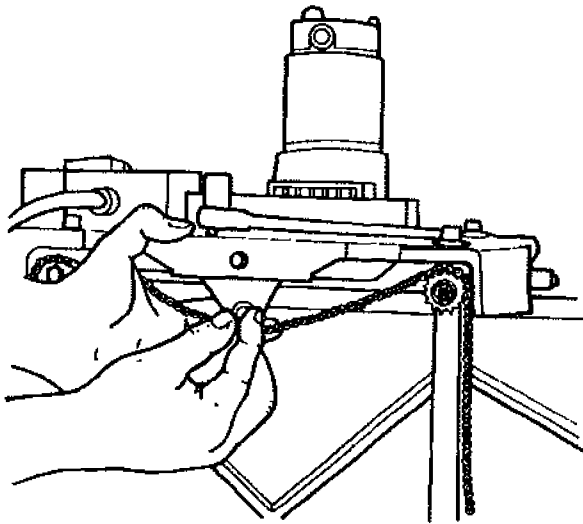

Fig. 77
9. Re-install and re-adjust the synchronizing chain. Tilt the planer on its right side so that the tension adjustment sprocket is at the top. Remove the adjustment sprocket. Place the chain on the bottom two sprockets and hold it so the chain doesn't drop. Carefully slip the chain over the top left sprocket. Do not pull the chain to tighten it. If the chain is loose, remove and reset on the sprocket one link tighter. Without allowing the chain to slacken on the left side, place it over the top right sprocket. All slack in the chain should be hanging between the top two sprockets. Re-install the adjustment sprocket, demonstrated in Fig. 77, and adjust the tension in the chain.